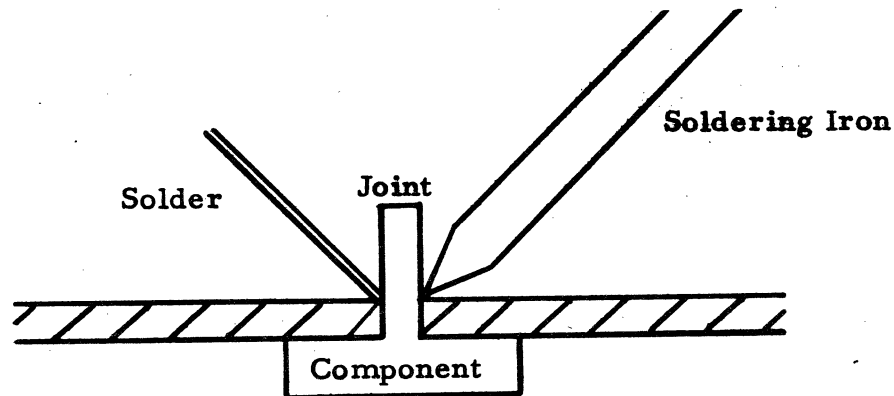

Figure 1 - Soldering Procedure
3.1.2.1 Soldering Procedure (Figure 1)